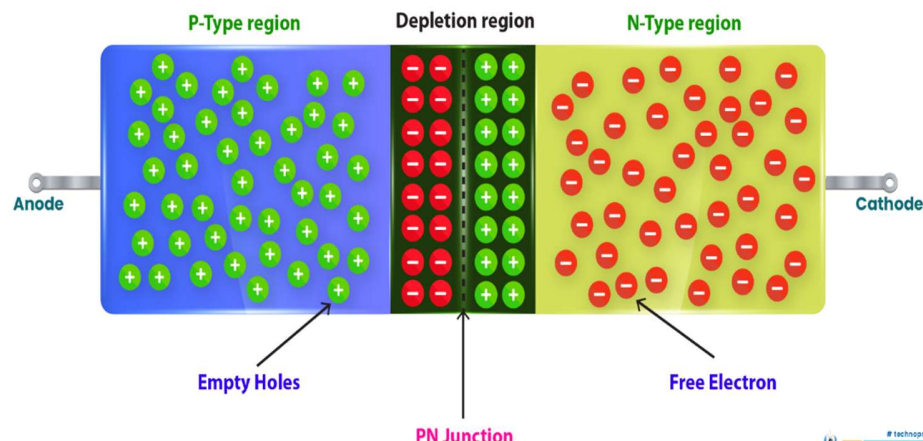

Fig. 6 Unbiased PN Junction
- After some time, the transportation of mobile charges, electrons & holes stops due to a negative electric field in the P-region and a positive electric field in the N-region. The unbiased PN junction diode has been depicted in Fig. 6.